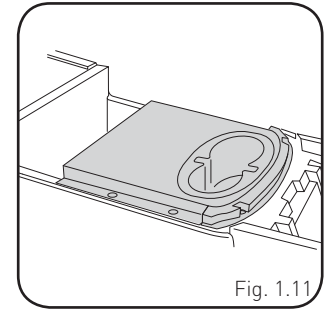

Fig. 1.11
12. Remove the cupholders. If the vehicle is equipped with illumination, disconnect the wiring harness. (Fig. 1.11)